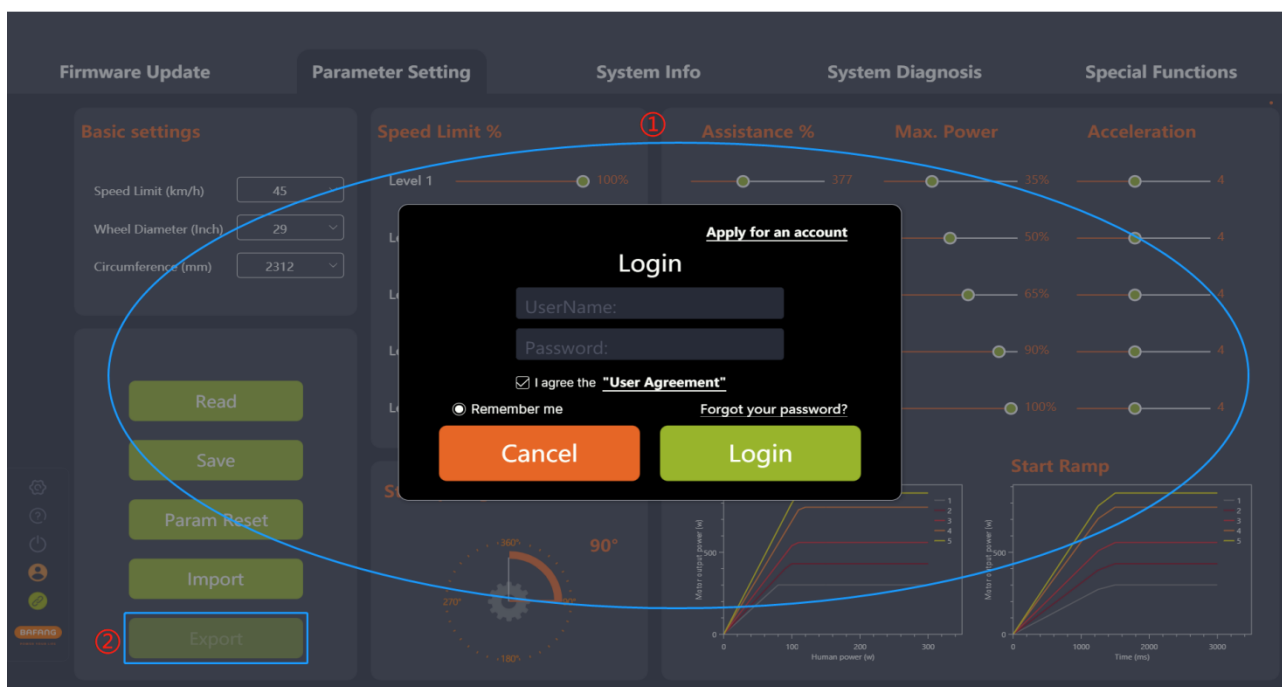

Fig. 5-19 Export
- (1) Set the parameters;
- (2) Click the “Export” icon. Note: If not logged in will pop up the login interface, will prompt the user to log in (Fig.5-19).